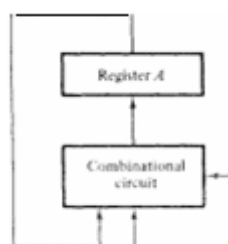

Figure 5.10 Block diagram of accumulator
- The block diagram of an accumulator that forms a sequential circuit is shown in Fig 5.10.